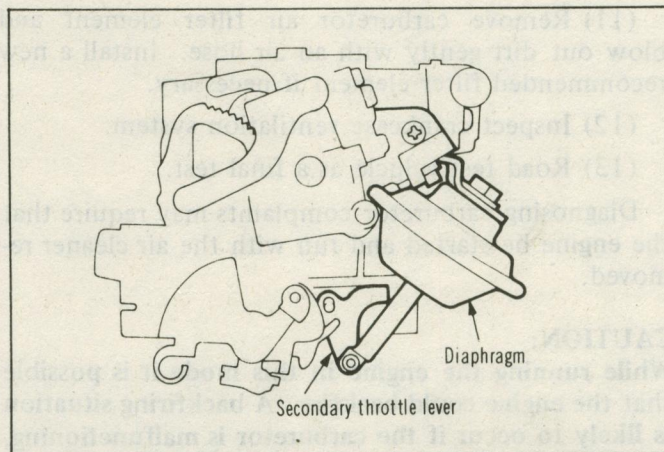

Fig. 22 Removing Diaphragm Chamber
(5) Disconnect the vacuum hose.
(6) Disconnect lower end of diaphragm chamber link and remove the diaphragm chamber. Do not immerse the diaphragm chamber assembly in cleaner. (Fig. 22)